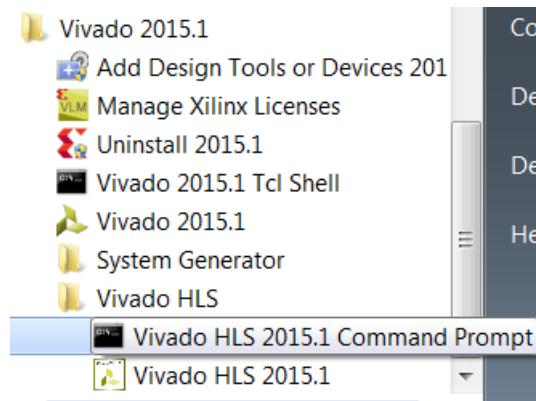

Figure 6-1: Vivado HLS Command Prompt
- On Windows click **Start > All Programs > Xilinx Design Tools > Vivado 2015.1 > Vivado HLS > Vivado HLS 2015.1 Command Prompt** (Figure 6-1).